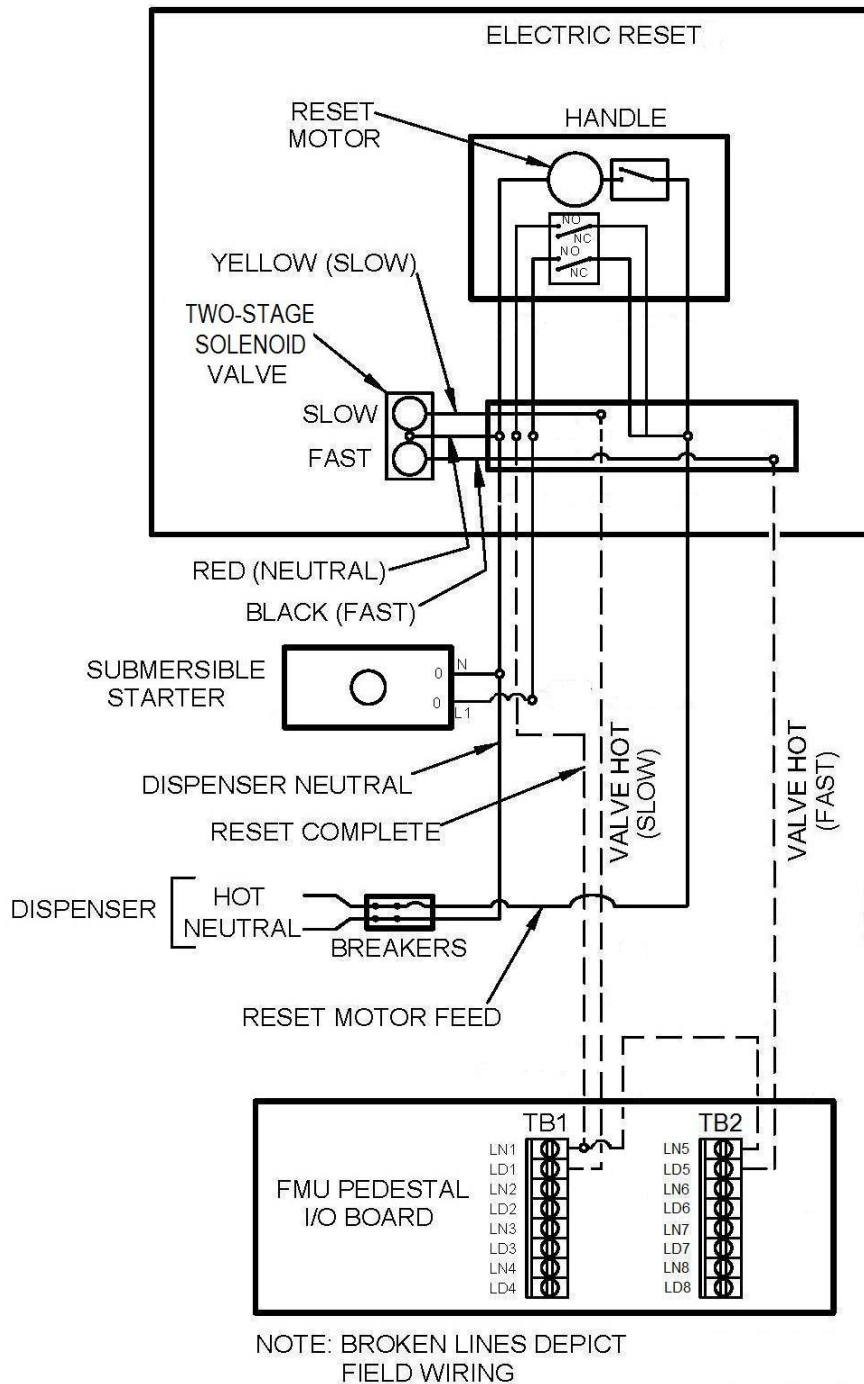

Figure 4-13. Wiring Diagram – Two-Stage Valve Control
- e. **Two-Stage Valve Control.** See Figure 4-13. Two-stage valve control is a control method for separately controlling the fast and slow stages of a two-stage valve. Two-stage valve control is used 1) to ensure preset quantities or costs are not exceeded, and 2) to reduce shutdown pressure at the end of the transaction in systems with high flow rates.